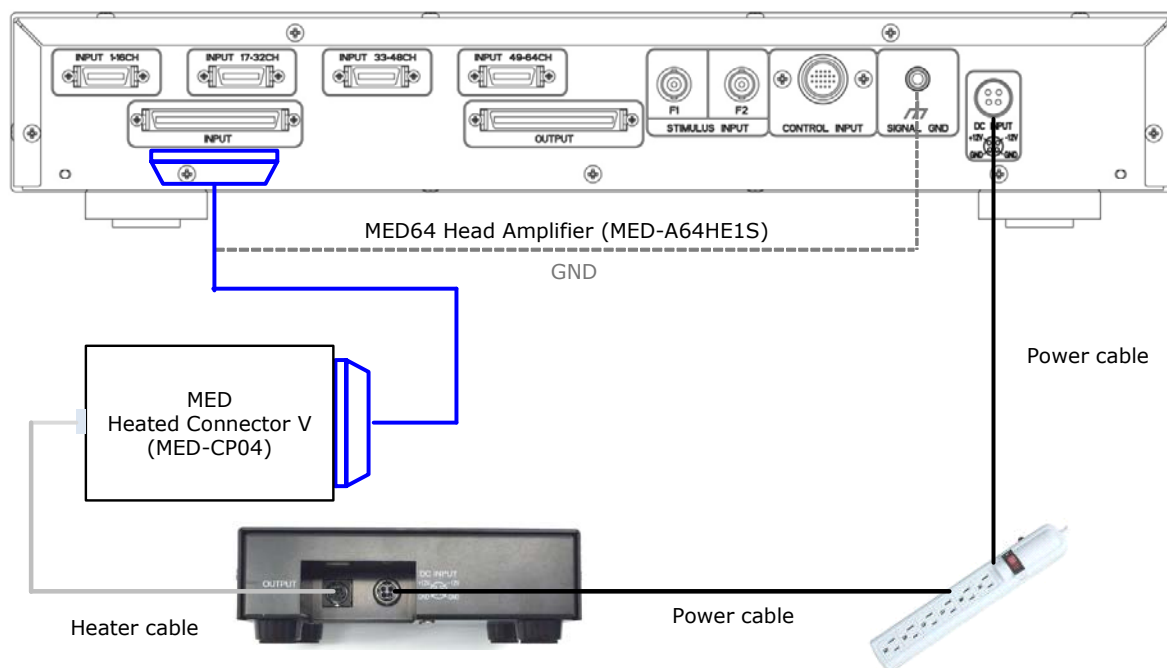

Figure 8. Connection between MED ThermoConnector and MED64 Head Amplifier.
5. Connect the Ground wire attached to the Connector cable to the SIGNAL GND in the MED64 Head Amplifier (MED-A64HE1S) (Figure 8,10).
7. Connect the Power cable of the Temperature controller to the same power strip where the MED64 Main Amplifier and MED64 Head Amplifier are connected (Figure 8).